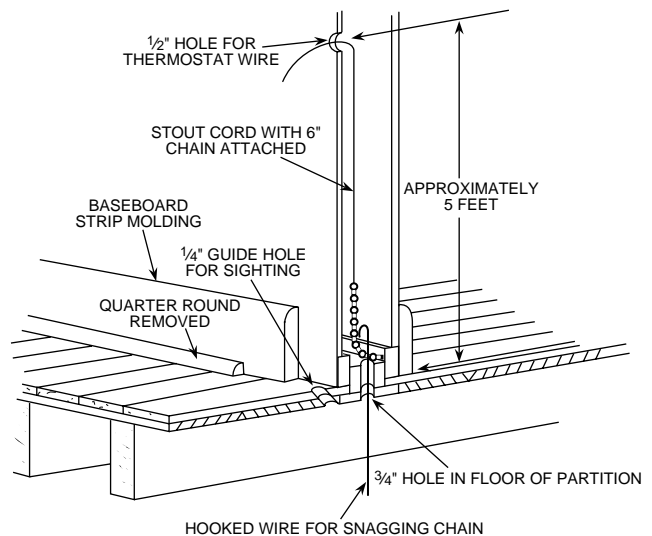

Figure 1. Routing Thermostat Wires
1. Probe for obstructions in partition before drilling 1/2" hole in wall at selected location. Take up quarter round and drill a small guide hole for sighting (see Fig. 1). From basement, drill 3/4" hole in partition floor next to guide hole. In basementless houses, drill 1/2" hole through ceiling and into partition from above (see Fig. 1).